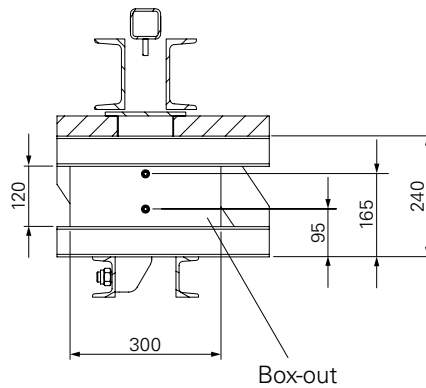

Fig. B1.10a
6. Place additional platform beams (**36a**) on the existing 1 and pre-drill with $\varnothing 8$ mm, laterally spaced at distance *c* and below with spacings of 95 and 165 mm. (Fig. B1.10a)